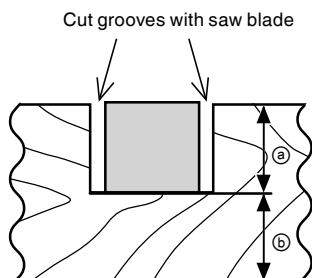

Fig. 47
Grooves in the workpiece can be cut as indicated in Fig. 47 by adjusting the 6 mm depth adjustment bolt.
- (2) Adjust to the desired cutting depth by setting the distance between the saw blade and the surface of the turntable (see ⑥ in Fig. 47).